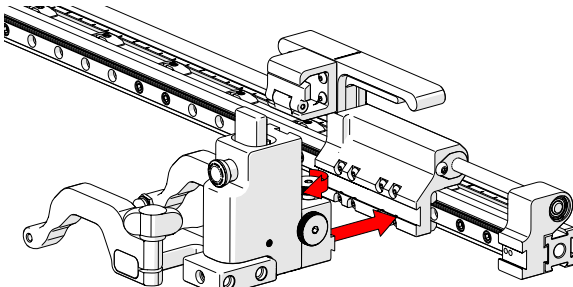

Fig. 35 - Mount probe holder to carrier
1. Loosen the probe holder adjustment knob (*Fig. 35*) and mount the heavy duty vertical probe holder's dovetail jaw to the carrier.